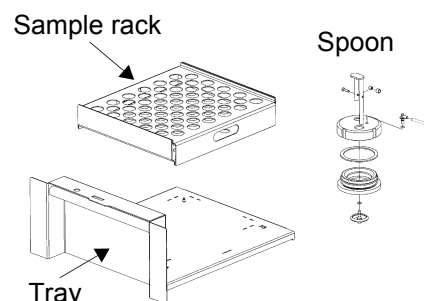
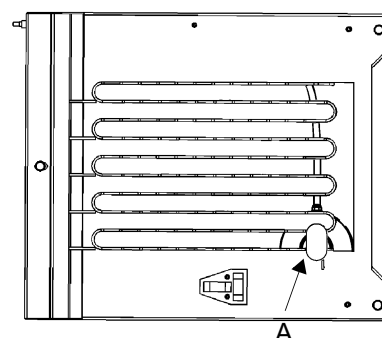

Figure 1.3 Sample rack and spoon
Figure 2.3 Spoon in sample rack
- 3) Spoon (options for float chamber volume: 10, 18, 30 and 50 cc) (figure 1.3)
- 4) Tray (standard) + sample rack (optional) (figure 1.3)
- 5) Chilled tray and insulation panels (optional) + sample rack (optional) (figure 1.3)
The Shuttle sampling device can be used with either a standard NRS sample rack (figure 1.3) for 96 samples or with a Lely sample rack for 40 or 60 sample bottles. (NRS = Nederlands Rundvee Syndicaat, the Dutch Cattle Syndicate) The NRS sample rack is suitable for taking samples of 9 to 9.5 cc (intermediate volumes can be set). The Lely is suitable for taking samples of 18, 30 and 50 cc (intermediate volumes can be set). This makes the Shuttle sampling device highly versatile.
- 5) Place the spoon (figure 1.3) at position (A, figure 2.3) above the sample rack. The spoon will then be suspended above sample bottle (12) in an NRS rack or sample bottle (1) in a Lely rack (see chapter 2.2 'Filling sequence of sample bottles').